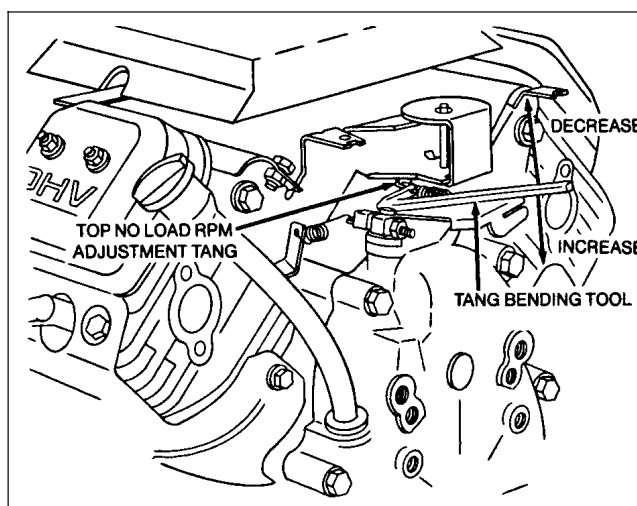

Figure 6
6. Move throttle control to FAST position. Bend high speed spring anchor tang to bring engine speed to $2800 +50/-100$ RPM (Fig. 6).